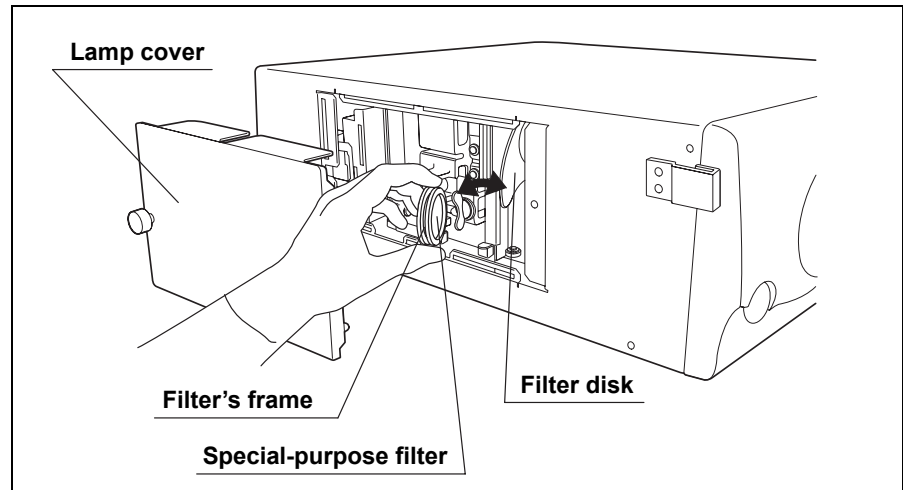

Figure 5.4
5. Align the filter's frame installed a special-purpose filter with the groove in the filter disk, and push the filter's frame into the filter disk until it locks (see Figure 5.4).